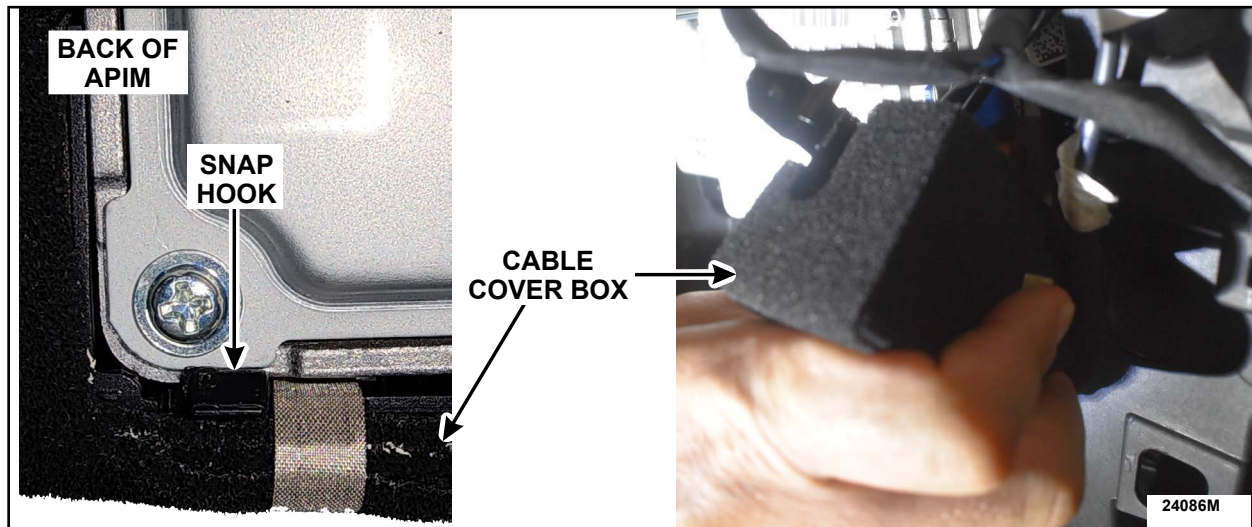

FIGURE 12
13. Locate the cable cover box. Starting with a tilting motion, engage the snap hook to the bottom of the APIM. See Figure 12.